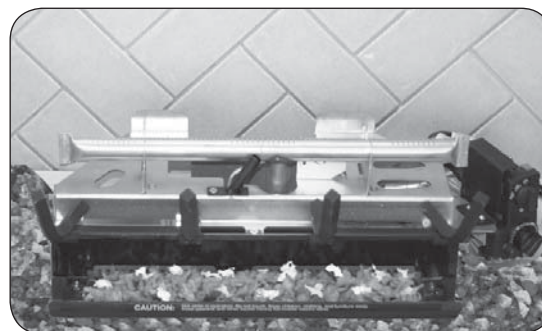

Fig. 18-3 Place bryte coals
2. Separate the bryte coals into small pieces, and evenly place them over the glowing embers as shown in Fig. 18-3.